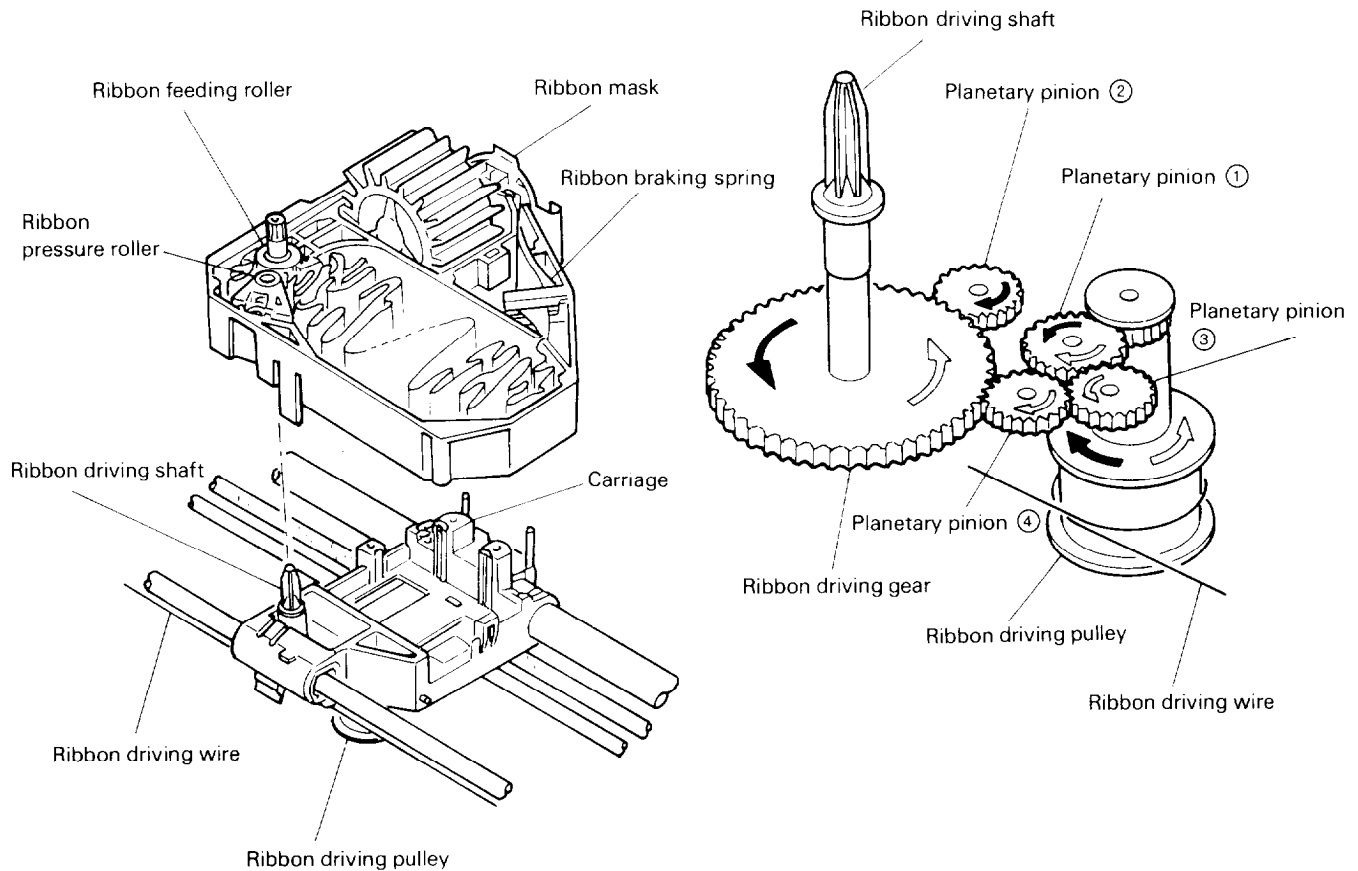

Fig. 2.49 Ribbon feed mechanism
2.5.1.4 Ribbon feeding mechanism (Fig. 2.49)